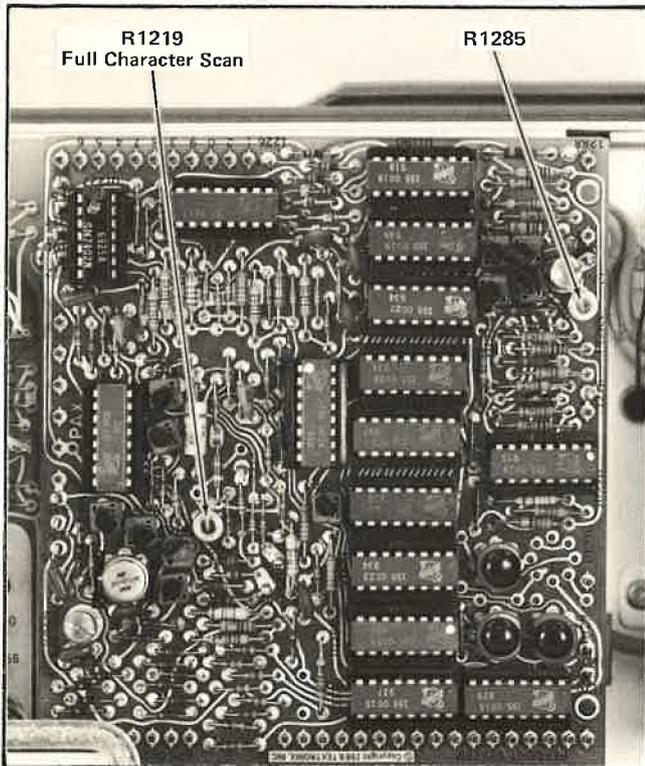

Fig. 5-18. Location of adjustments on the Readout Systems board.
f. ADJUST—Readout Vertical Separation adjustment R1285 (see Fig. 5-18) to position the readout characters
h. ADJUST—Full Character Scan adjustment, R1219 (see Fig. 5-18), for completeness of characters without overscanning.